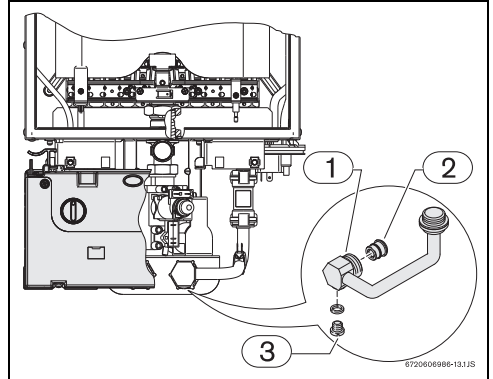

Fig. 6 Purge screw
- ▶ Loosen the purge screw (Fig. 6) located on the water inlet pipe.